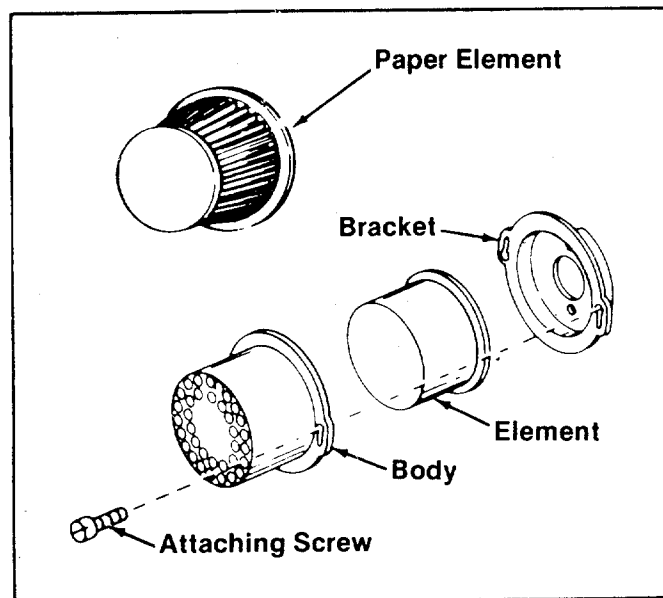

FIGURE 19
4. Air Cleaner. (See figure 19).